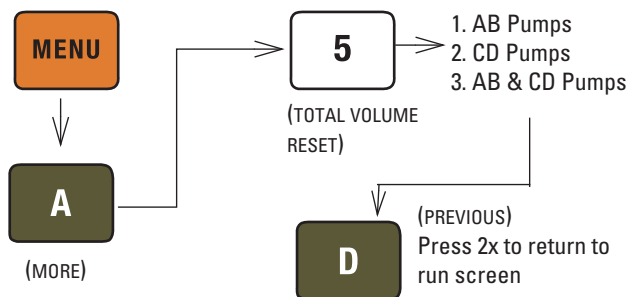

Figure 5-9 Keystrokes to reset volume totalizer
3. Reset total volume (see Figure 5-9).
5. Reset total volume (see Figure 5-9).